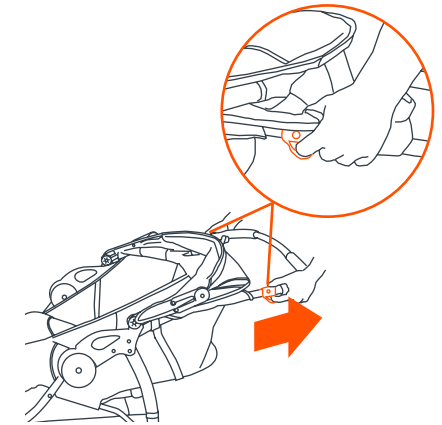
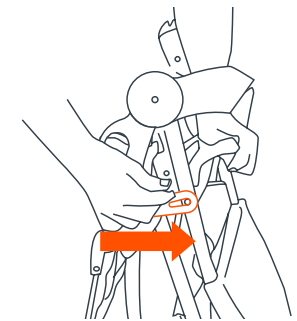

Fig. 18a
Fig. 18b
• The stroller is folded by simultaneously pulling each trigger (Fig. 18a). When the fold latches are released, the handle will begin to fall toward the floor. Release the fold buttons and press downward on the stroller handle until the stroller is completely folded. Secure the stroller in the folded position by locking the fold latch, located on the right side of the stroller, over the rivet that protrudes from the frame (Fig. 18b).